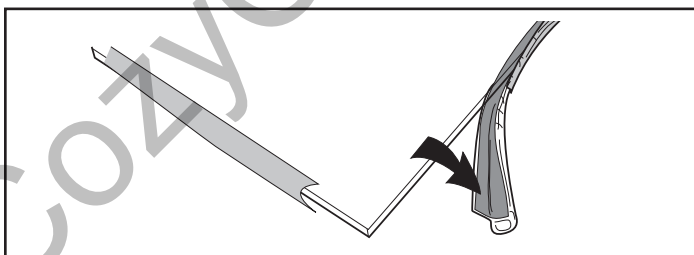

Figure 60 - Wrap the gasket material around the outside edge of the glass.
3. Starting on a long edge, remove about 6" of the protective paper strip and apply the flat adhesive face of the gasket around the outside-facing edge of the panel. Continue around the panel, applying a bout 6" at a time and being careful to not stretch the material. Do not overlap the gasket ends. (Figure 60)
To ensure that the stove is operating properly, check the flames periodically to confirm they match Figure 60. The flames will be blue during the first 15-20 minutes of operation, and will gradually turn to yellow after that.